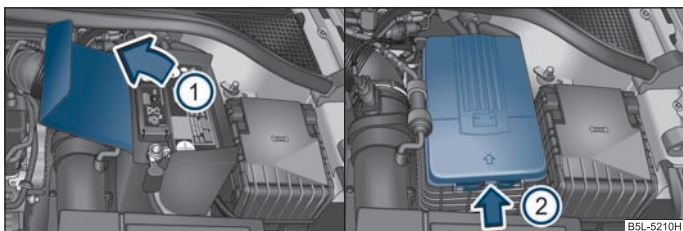

Fig. 170 Engine compartment: Polyester cover of the vehicle battery/plastic cover of the vehicle battery
The battery is located in the engine compartment in a polyester cover ⇒ fig. 170 - left or in a polyester cover ⇒ fig. 170 - right.
- Open the battery cover in direction of arrow ① or press the interlock on the side of the battery cover in direction of arrow ② ⇒ fig. 170, fold the cover up and remove the battery.
The edge of the polyester battery cover ⇒ fig. 170 - left is inserted between the battery and the side wall of the battery cover when working on the battery. ■